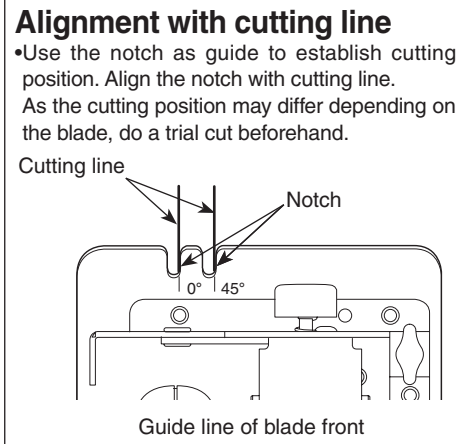

Fig. 3
1. Line up the sight line on shoe with your cutting line. (See Fig.3)